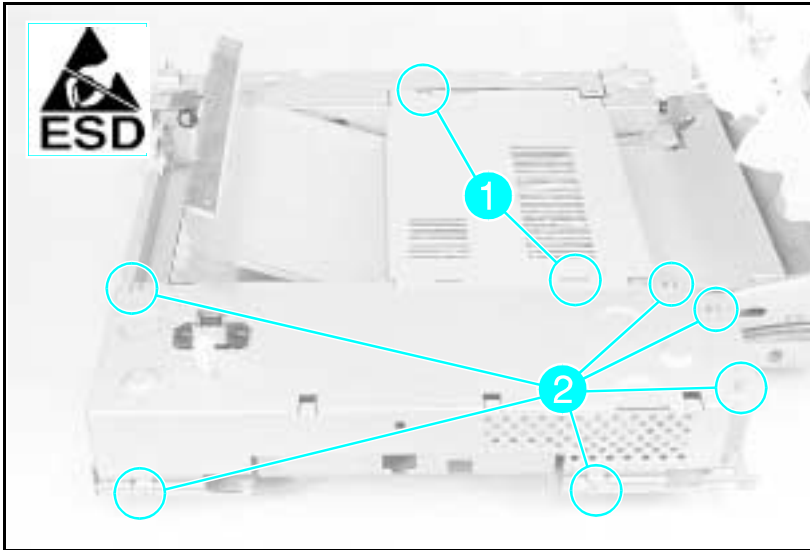

Figure A-16 Cover Plate
- 1 Remove the (2) screws shown in Figure A-16, callout 1.